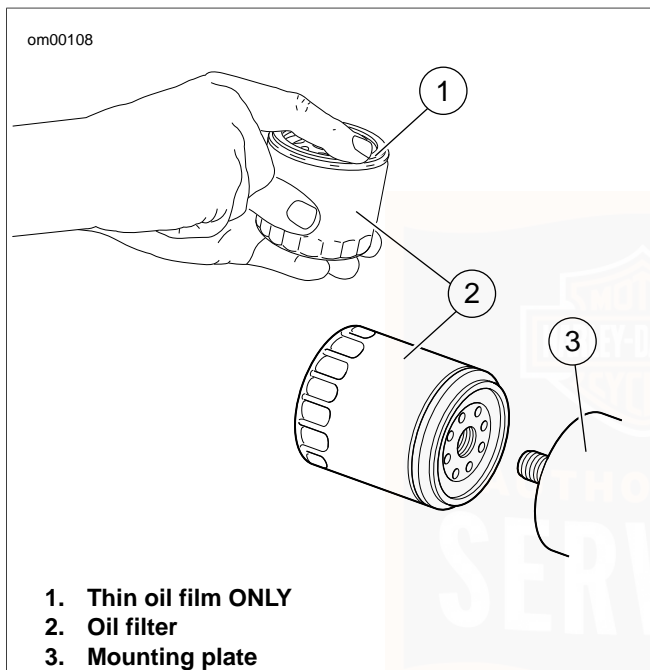

Figure 50. Applying Thin Oil Film
8. See Figure 50. Lubricate gasket with clean engine oil and install **new** oil filter on filter mount. Hand tighten oil filter 1/2-3/4 turn after gasket first contacts filter mounting surface. Do not use OIL FILTER WRENCH (Part No. HD-42311) for oil filter installation.